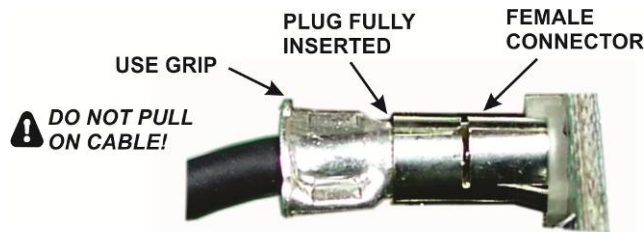

Figure 6. TMP Cable Connectors.
- You can either unplug the coaxial cables or push the module aside to reach the mounting screw for the main synthesizer board. To remove the cables, first remove the five screws securing the top cover and lift it off so you can pull on the metal grip of each connector (see Figure 6). Do not pull on the coaxial cable; you might pull it out of the TMP connector. If you remove it completely, a diagram is provided on page 16 showing all of the required cable connections to reinstall it.
Unplug the coaxial cables from the synthesizer. The connectors are a friction fit and pull apart. Pull on the metal “ears” of the TMP connectors, not on the coaxial cable (see Figure 6).